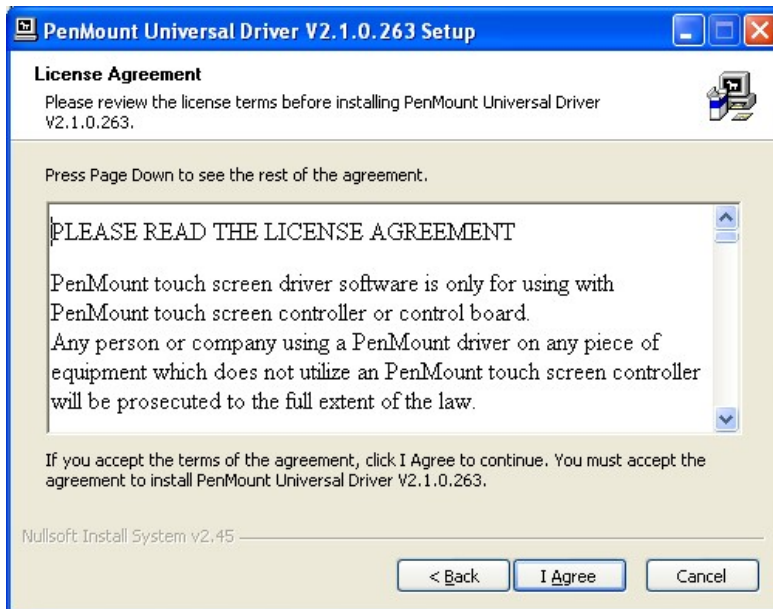

Figure 6-26: License Agreement
Step 6: The License Agreement shown in Figure 6-26 appears.